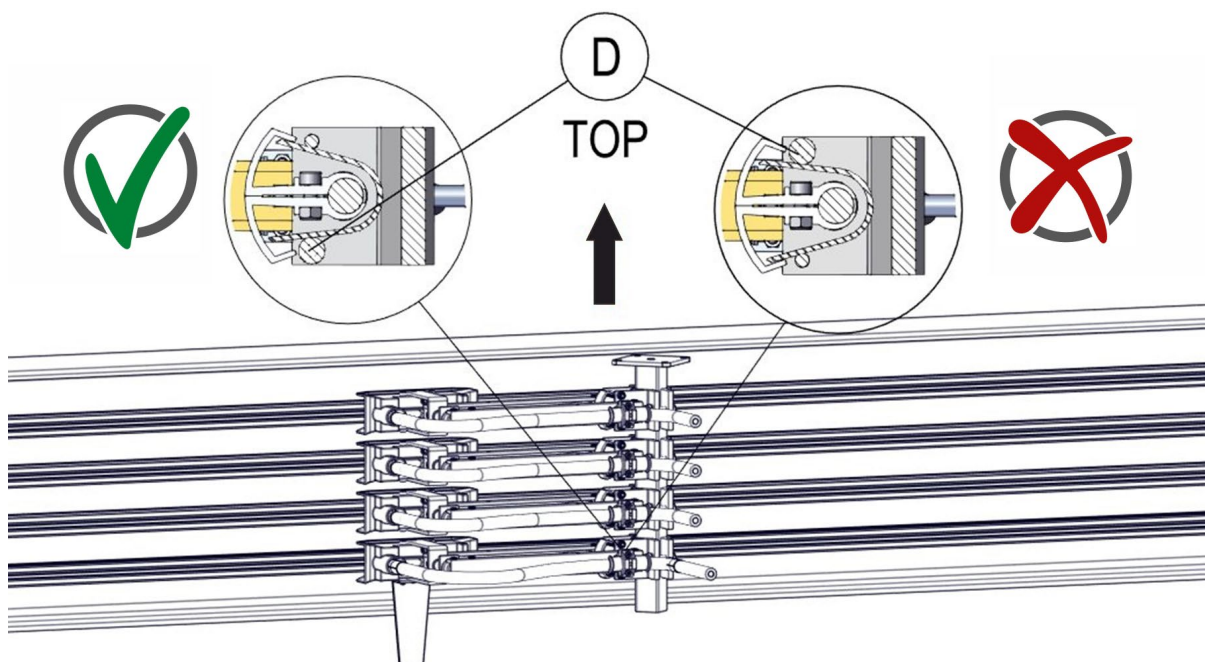

Fig. 122: Spacer (Pos. D) is seated on the bottom
For current collector insertion from the side: The spacer ensures that the current collector remains in its neutral position. (see Pos. D in Fig. 122)
- When inserted from the side, the current collector spacer is on top or has not been installed. (see Pos. D in Fig. 122)